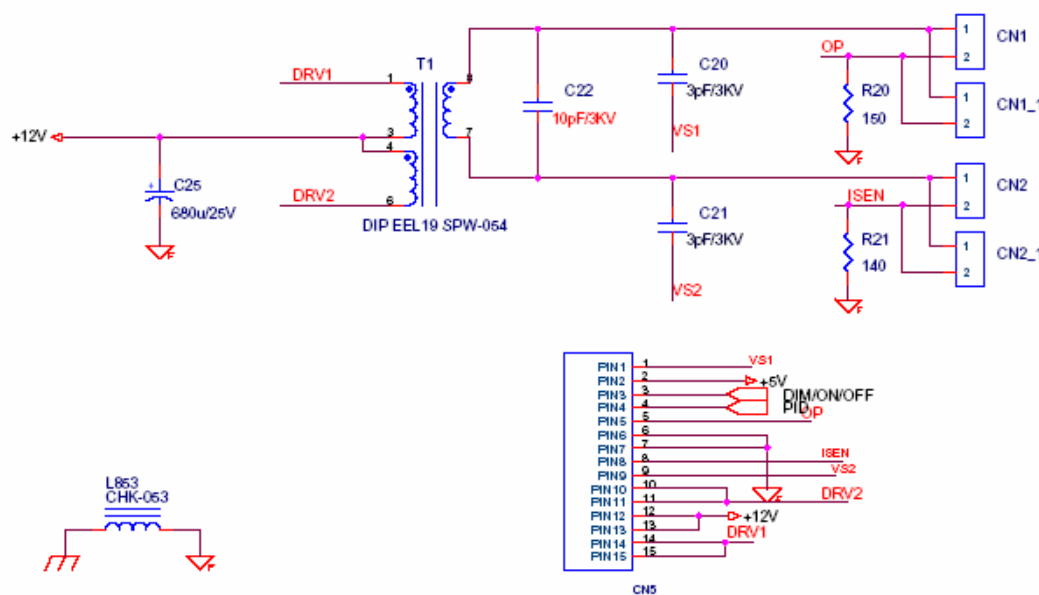

Fig.3
2.1.2 Output Circuit and Protection Circuit operations:(fig.3)